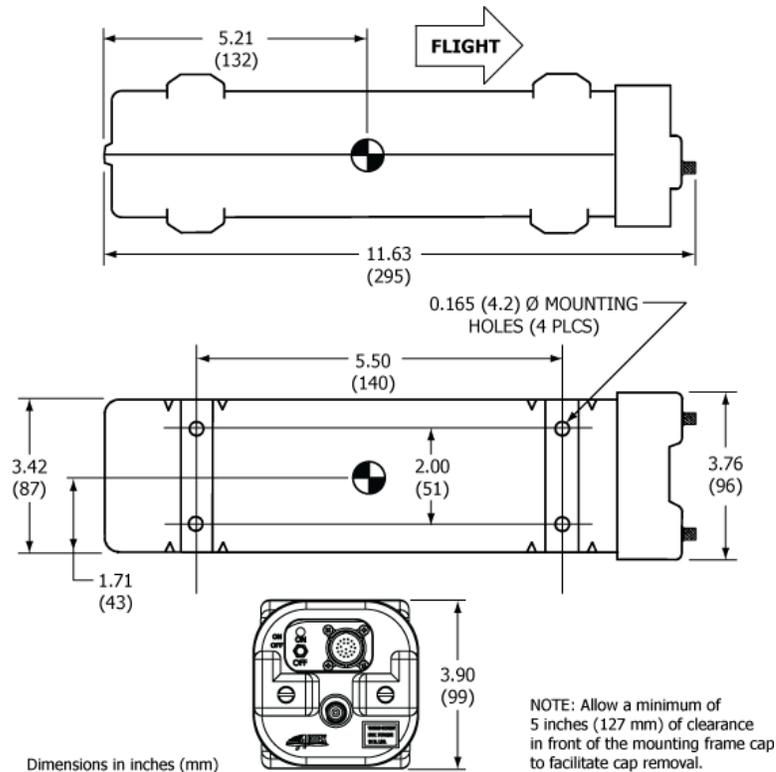

Figure 15 C406-N Series ELT Outline and Dimensions
- 1) Select a suitable location for the mounting tray. See Figure 15 C406-N Series ELT Outline and Dimensions on page 46. Refer to these dimensions when determining mounting location.
- 4) Mark the four holes needed for mounting the tray, using the tray as a pattern. The hole pattern is also illustrated in Figure 15 C406-N Series ELT Outline and Dimensions on page 46.